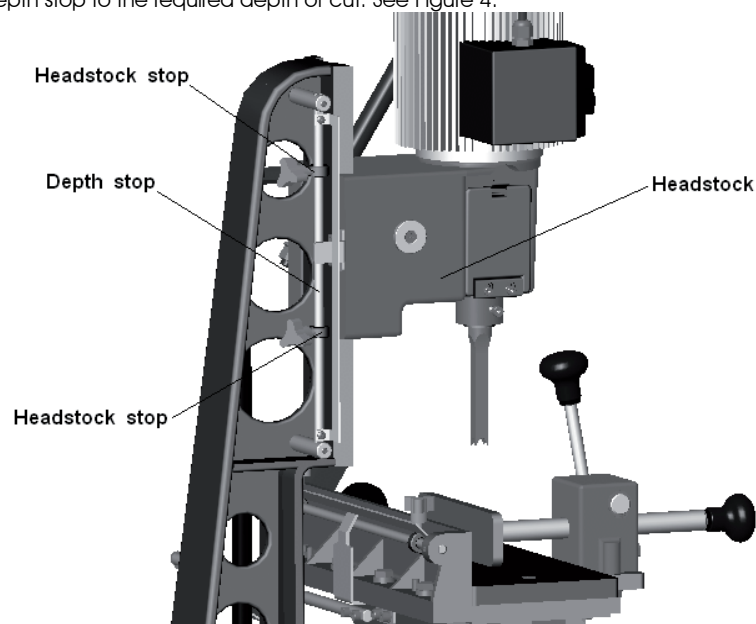

FIGURE 4
1. Set depth stop to the required depth of cut. See Figure 4.